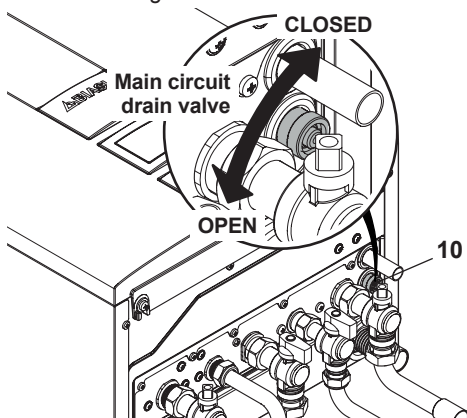

Fig. 10.10
- Loosen the central heating drain cock 10 indicated in Fig. 10.10.